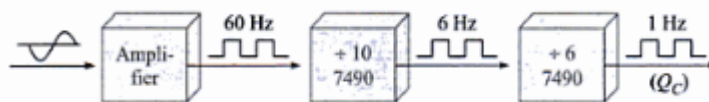

Figure 10.41: Divide-by-60 counter
- The TTL MSI 7490 decade counter can be used as a divide-by-10 counter and the TTL MSI 7492 can be used as a divide-by-6 counter. Cascading these two counters will provide a divide-by-60 counter. (Figure: 10.41)